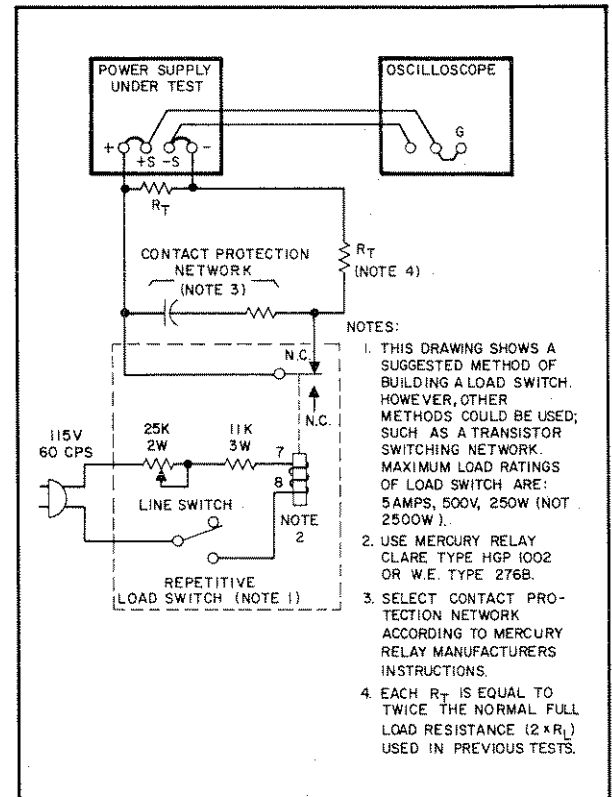

Figure 5-4. Transient Recovery Time, Test Setup
5-34 A mercury-wetted relay, as connected in the load switching circuit of Figure 5-4 should be used for loading and unloading the supply. When this load switch is connected to a 60Hz AC input, the mercury-wetted relay will open and close 60 times per second. Adjustment of the 25K control permits adjustment of the duty cycle of the load current switching and reduction in jitter of the oscilloscope display. This relay may also be used with a 50Hz ac input.
5-35 The maximum load ratings listed in Figure 5-4 must be observed in order to preserve the mercury-wetted relay contacts. Switching of larger load currents can be accomplished with mercury pool relays; with this technique fast rise times can still be obtained, but the large inertia of mercury pool relays limits the maximum repetition rate of load switching and makes the clear display of the transient recovery characteristic on an oscilloscope more difficult.
- a. Connect test setup shown in Figure 5-4. Both load resistors ( $R_T$ ) are twice normal value of full load resistance.